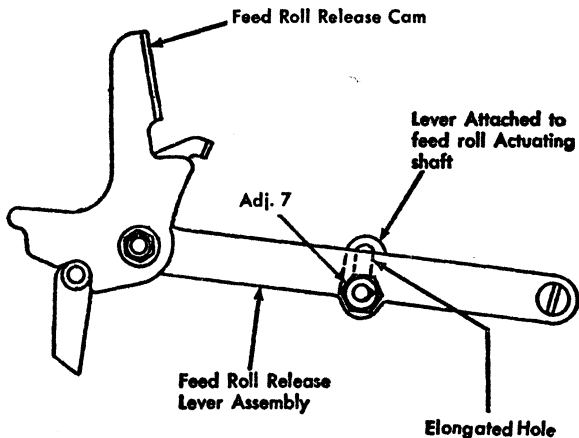

Figure 10. Paper Release Adjustment
7. PAPER CLEARANCE is adjusted by loosening the screw which holds the feed roll release lever to the lever and bushing assembly on the feed roll actuating shaft (Figure 10). Move the arm up or down to a position where forms may be shifted in the carriage when the paper release lever is moved to its rear position.